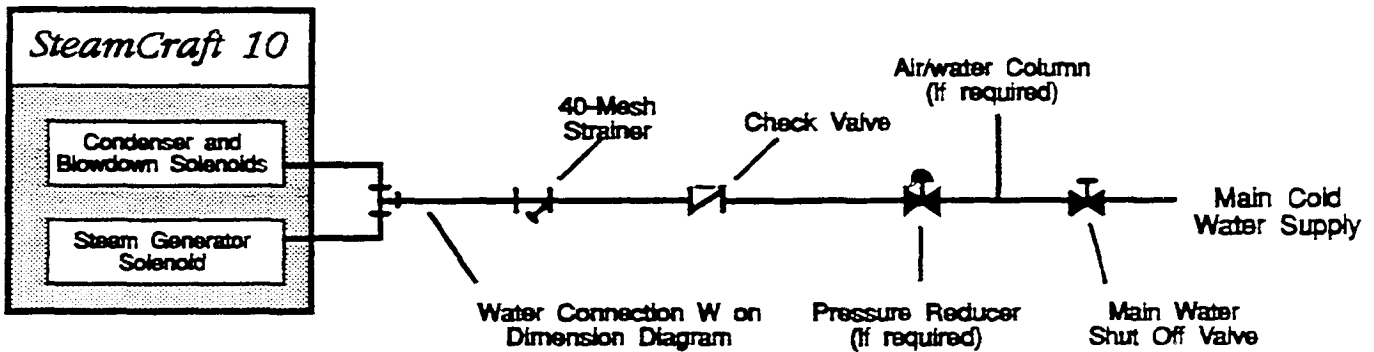
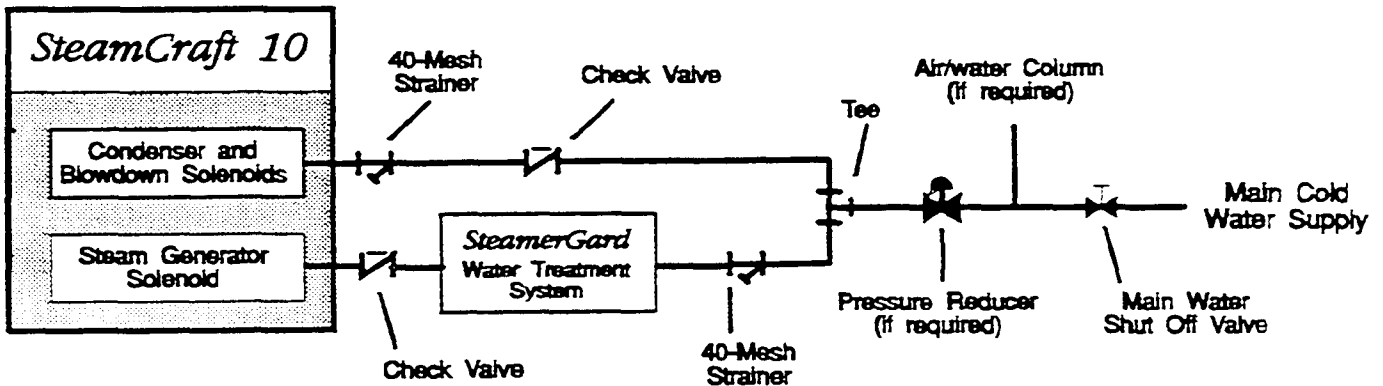

Figure 2-10. Untreated Water Supply Arrangement
Figure 2-11. Treated Water Supply Arrangement
5. Refer to the recommended plumbing layouts in Figures 2-10 and 2-11 and install the water supply lines and fittings in accordance with all local and national codes. Pay particular attention to the following requirements and recommendations.
- a. When installing a water supply system without a SteamerGard, Cleveland Range recommends the plumbing layout illustrated in Figure 2-10. This is a single water line from the main cold water supply to the tee just outside the SteamCraft 10. The two separate lines from the tee to the steam generator and condenser/blowdown connections are comparatively short.
- b. When installing a water supply system with a SteamerGard. Cleveland Range recommends the plumbing layout illustrated in Figure 2-11. Note the following details:
The water supply connections are located under the SteamCraft 10, as shown in Figure 2-2. Connect the water supply lines to the Steam Craft 10 by following both the general connection requirements and those requirements specific to the type of supply system, either untreated water supply (Figure 2-10) or water supply treatment system (Figure 2-11).
1. Refer to Figure 2-10. Verify that a suitable check valve is installed according to NSF and local codes.
2. Refer to Figure 2-11. Verify that suitable check valves are installed according to NSF and local codes. The condenser line check valve should be installed between the tee and the steamer. The steam generator line check valve should be installed between the SteamerGard and the steamer.